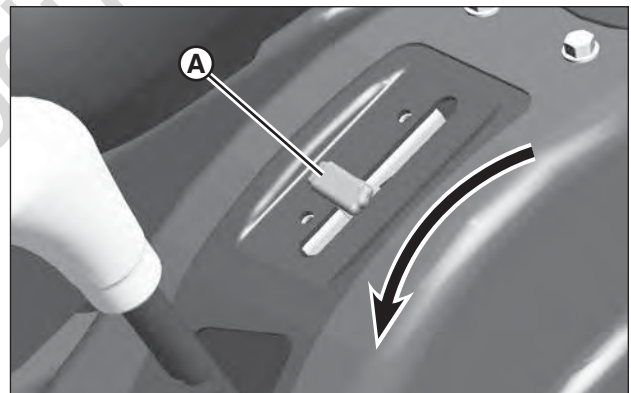

Figure 6: Engine speed control
5. Move the engine speed control (A, Figure 6) to the FAST position (or CHOKE position, if equipped).